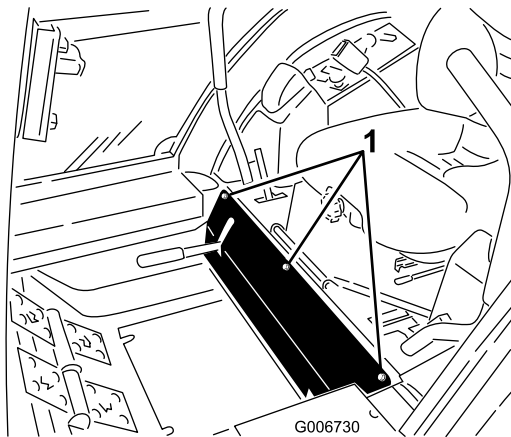

Figure 71
3. Remove the bolts securing the front panel and remove the panel (Figure 71).